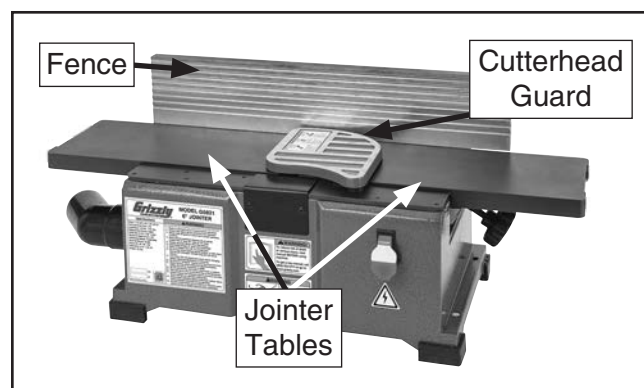

Figure 16. Fence positioned over jointer tables.
8. Slide fence forward until it contacts cutterhead guard. Cutterhead guard should completely cover cutterhead, as shown in **Figure 16**.